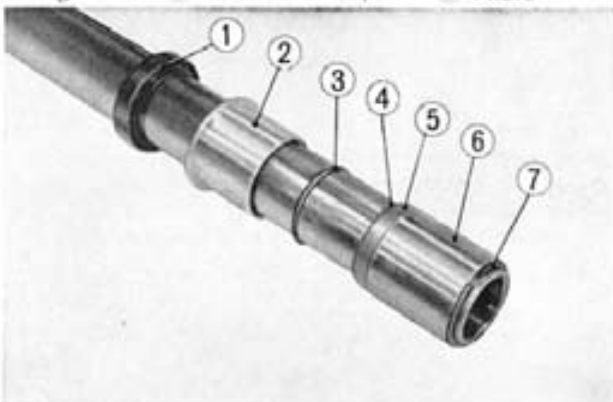

Fig. 11-14
5. By removing the fork piston snap ring, the front fork piston and the front fork damper valve may be disassembled from the front fork pipe. (Fig. 11-14)
1. Wash all the parts and then assemble the pipe guide, stopper rings, damper valve, piston and snap ring in that order on the front fork pipe. (Fig. 11-14)